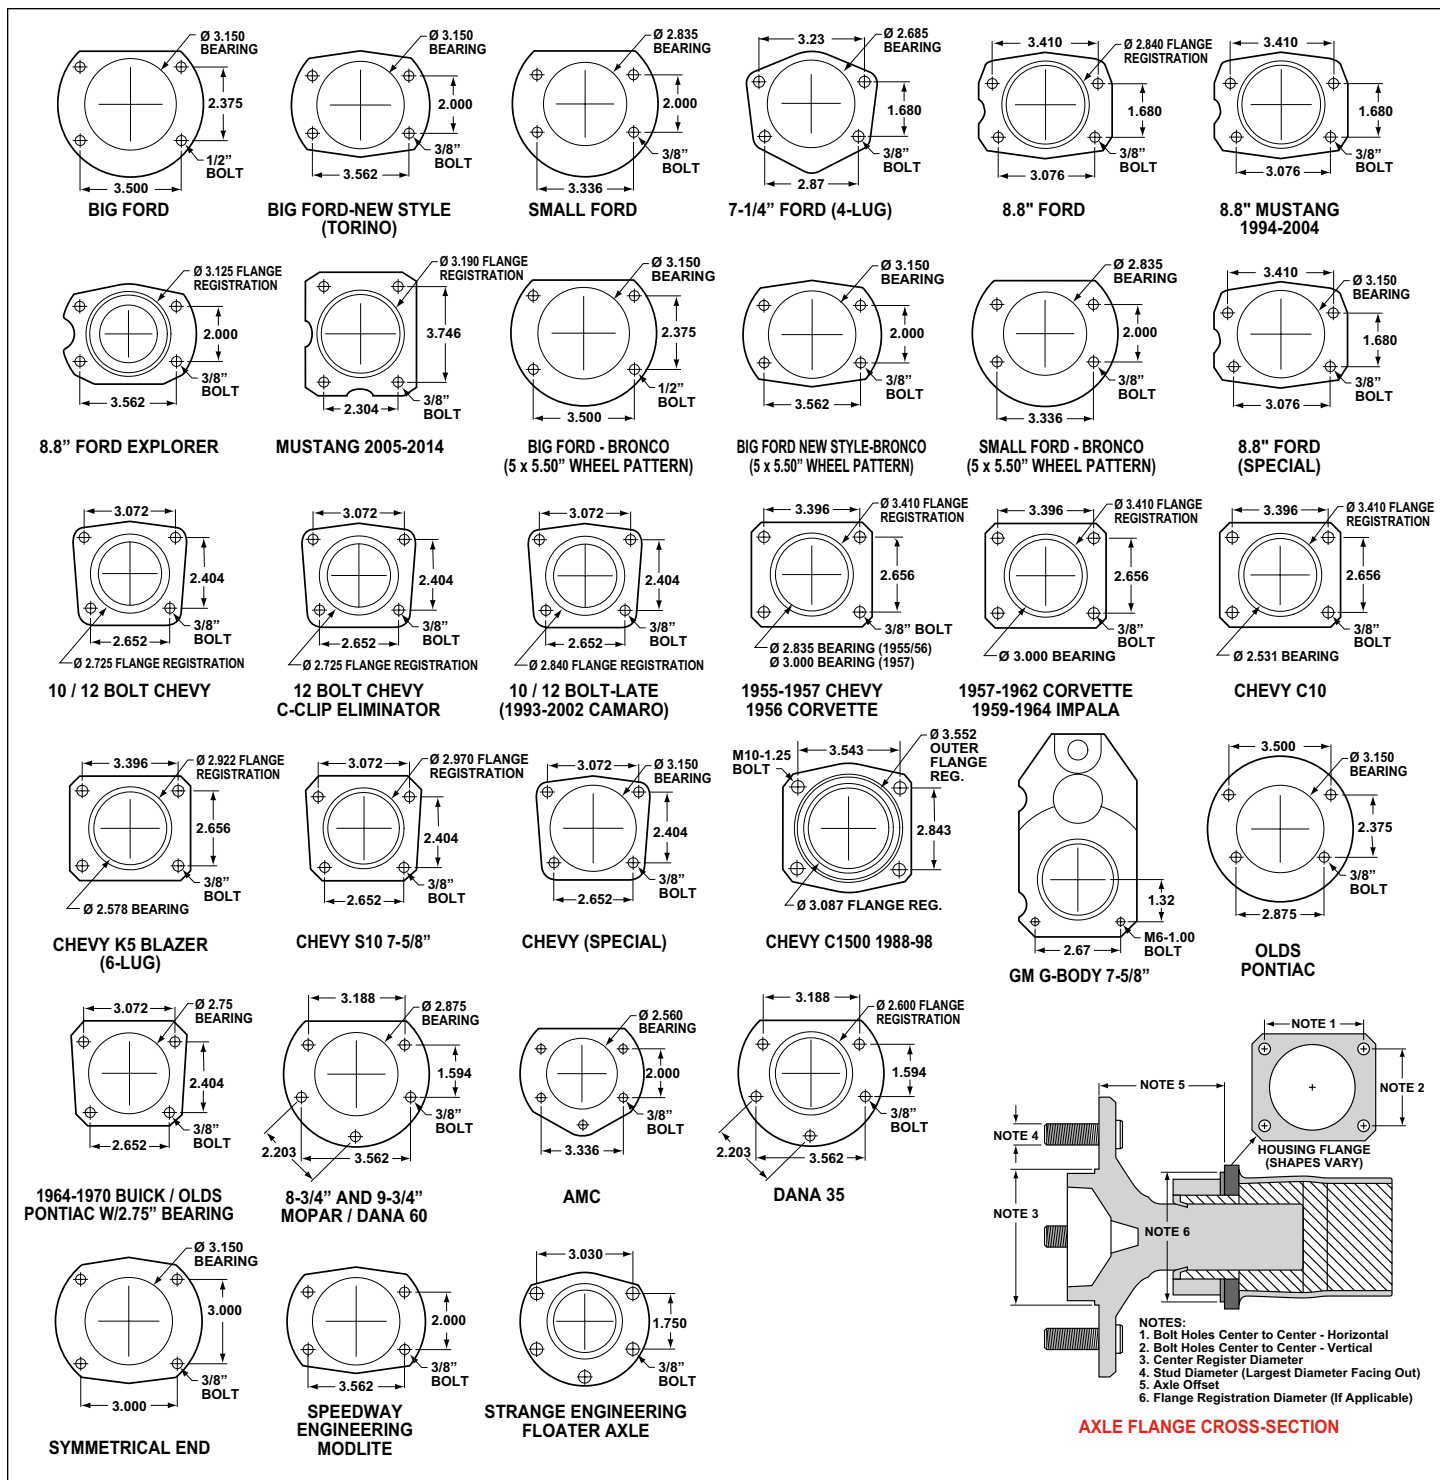

Figure 4. Rear Housing Flange Chart and Axle Flange / Offset Cross-Section
- Axle housing flange registration outside diameter 2.922", Figure 4.
- Dimension from wheel side of axle flange to wheel side of axle housing flange (see Figure 4, lower right hand corner). This dimension is critical to ensure proper alignment of the rotor to the caliper, and should match offset given in the kit description.